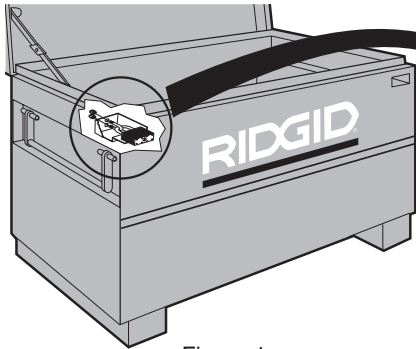

Figure 1
2. Slide the lock through the lock housing on the front of the box (figure 1).